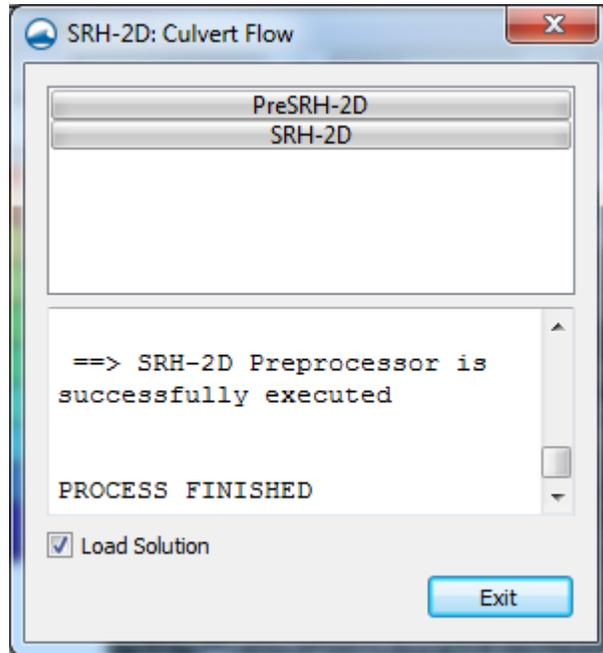

Figure 8. SMS Model Wrapper
4. Make sure *Load Solution* is checked in the SMS model wrapper, as shown in Figure 8 and click **Exit**.